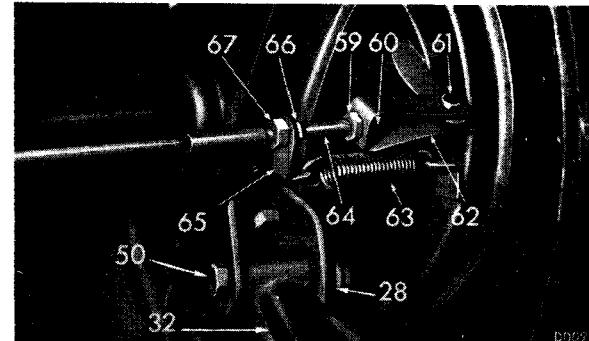

Fig. 21. Handbrake connections
2. Disconnect the handbrake cable (64) from the backplate lever by withdrawing the clevis pin (61). Disconnect the spring (63), Fig. 21.
2. Refit the three studs (42) with the shorter threaded portion leading, into the axle casing. Refit the spring clamp plate (3) and tighten the nyloc nuts (4).
4. Attach the vertical links (10) to the spring eyes using bolts (46), washers (12) and nyloc nut (11). Do not tighten the nut (11) at this stage.
5. Jack up the vertical links (10), fit the dampers and reconnect the axle shaft couplings.
6. Connect the handbrake cable to the backplate lever, refit the pull-off spring (63), Fig. 21, and reconnect the flexible brake hose. Adjust and bleed the brakes.
7. Place a trolley jack under the differential casing, remove the chassis stands and, with the vertical links supported at their running height, load the car and lower its rear end until the axle shafts assume their static laden operating position. This is to allow the rubber bushes to assume their correct working position before tightening the nuts (11), (8) and (13).
— the handbrake cable (64) from the backplate lever, and return spring (63) Fig. 21;